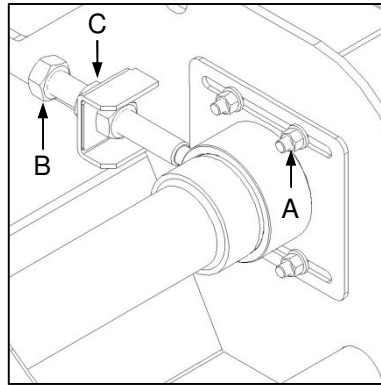

Fig. 11
- ✔ Loosen 4x locking nuts on the drive tensioner baseplate (Fig. 11-A) and 4x gearbox mounting bolts located
- ✔ Laat skiet die 4x sluitmoere aan die dryfbandspannersteunplaat (Fig. 11-A) en die 4x
- ✔ Loosen the tensioner lead-screw locknut (Fig. 11-C) and adjust the lead-screw (Fig. 11-B) to achieve the required belt tension.
- ✔ Laat skiet die spannerleiskroef-sluitmoer (Fig. 11-C) en verstel die leiskroef (Fig. 11-B) om die vereiste bandspanning te verkry.